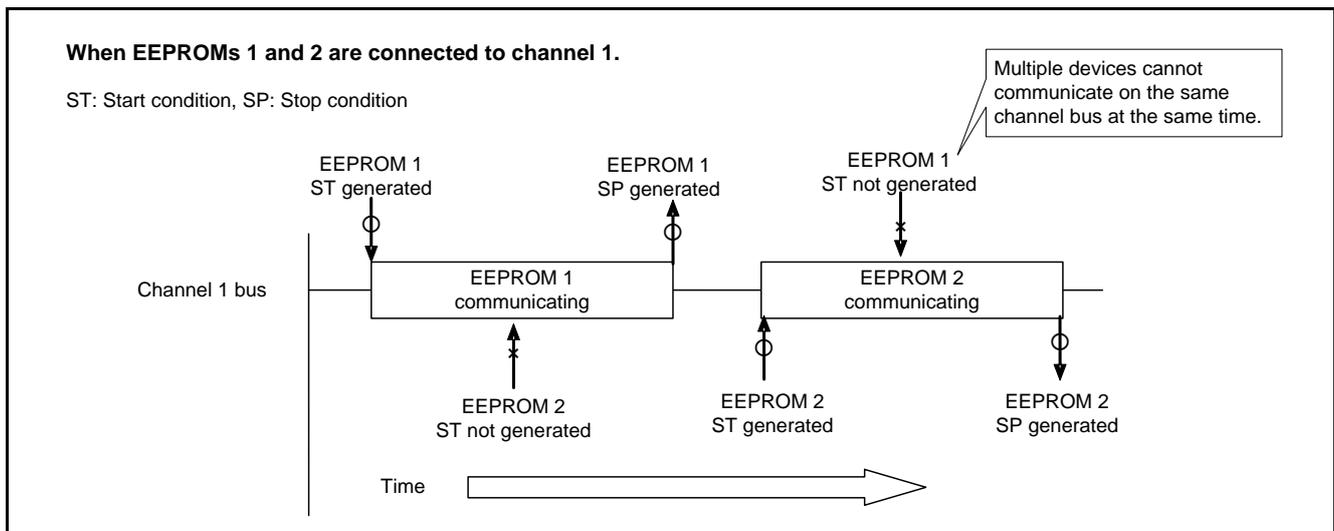

Figure 1.1 Example of Controlling Multiple EEPROMs
- Multiple EEPROMs on the same channel bus can be controlled. However, while communication is in progress (the period from start condition generation to stop condition generation), communication with another device is not available. Figure 1.1 shows an Example of Controlling Multiple EEPROMs.